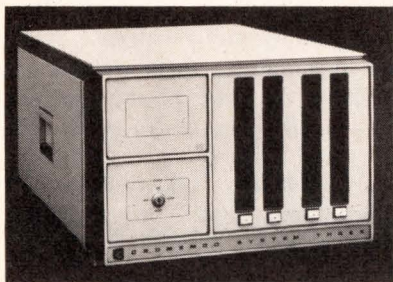

Fig 3 An expanded microcomputer system. (Courtesy of Cromemco, Mountain View, CA.)
- Can it be reconfigured for an upgraded system? The most common type of change embodies improving the system to support a new or better printer, more memory or a new or larger disk. Some programs allow such modifications with ease, while others require a major reworking. Some of the newest computers (Fig 3) can offer impressive advantages in speed and storage capabilities; software that you bought for an earlier system should be compatible with the upgraded system.